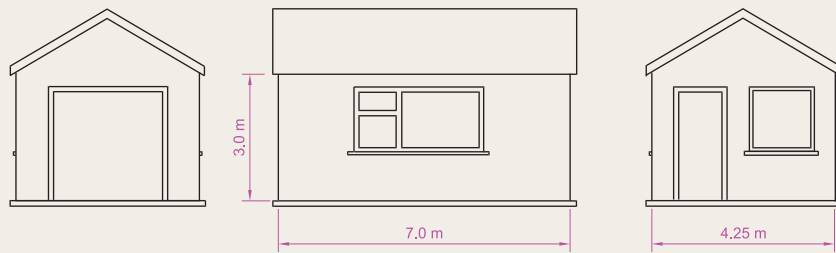
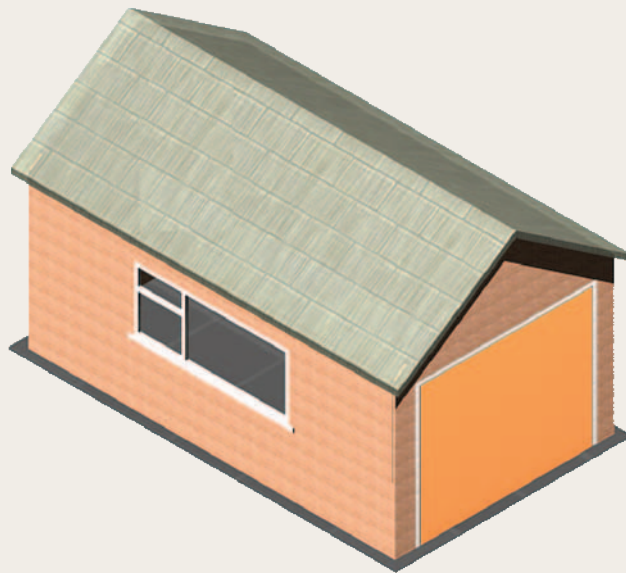

Fig. 16.34 Exercise 5 – orthographic views
Fig. 16.35 Exercise 5
5. Fig. 16.34 is a three view, dimensioned orthographic projection of a brick built garage. Fig. 16.35 is a rendering of a 3D model of the garage minus its front door. Construct the 3D model to a scale of 1:50, making estimates of dimensions not given in Fig. 16.34 and render using suitable materials.